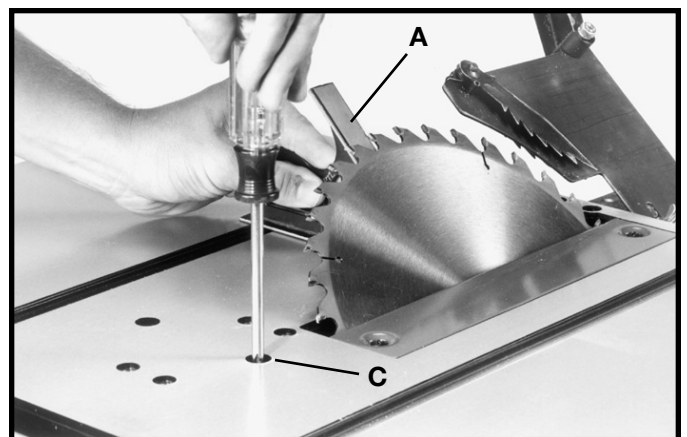

Fig. 42
5. Place a square (A) Fig. 42, on the table with one end of the square against the blade as shown, and check to see if the blade is at 45 degrees to the table. If it is not, loosen screw (C) a few turns and move the blade tilting mechanism until the blade is at 45 degrees to the table. Then tighten blade tilting lock handle and tighten screw (C) until it bottoms.